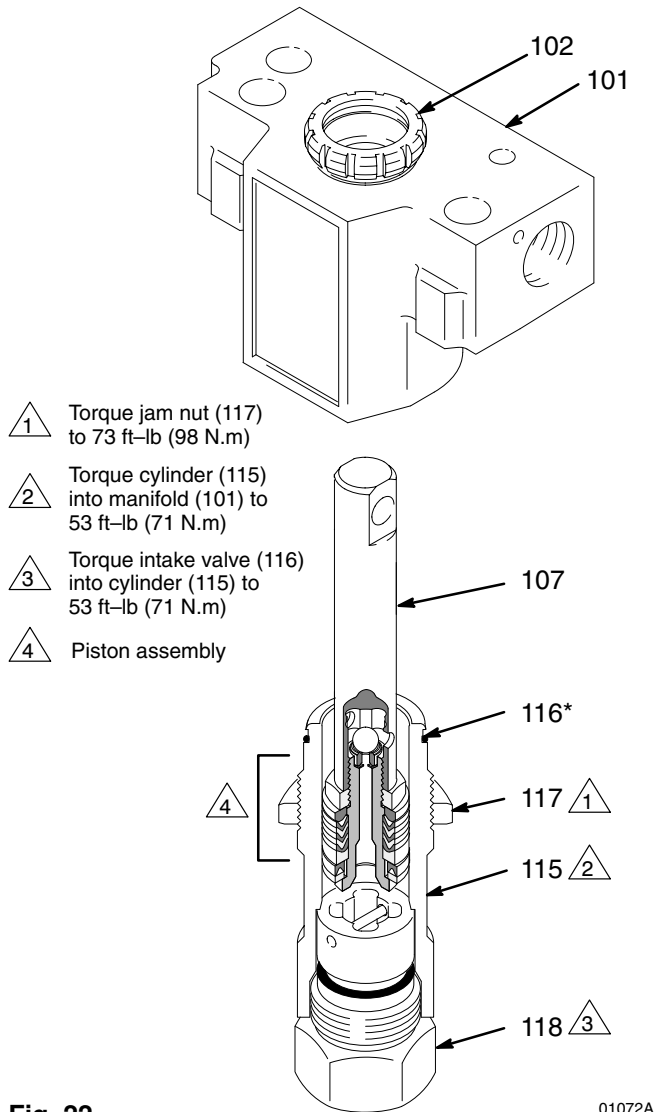

Fig. 22
11. Place a new o-ring (116*) firmly in the cylinder groove. See Fig. 22.
12. Coat the piston rod and packings with oil. Carefully slide the assembly **into the top of the cylinder (115)**. See Fig. 22.
13. Put the manifold upside down in a vise. Fully thread the jam nut (117) onto the cylinder (115). Guide the rod/cylinder assembly down through the manifold (101). Screw the cylinder (115) into the manifold. See Fig. 22.
15. Torque the cylinder jam nut (117) to 73 ft-lb (98 N.m). See Fig. 22.